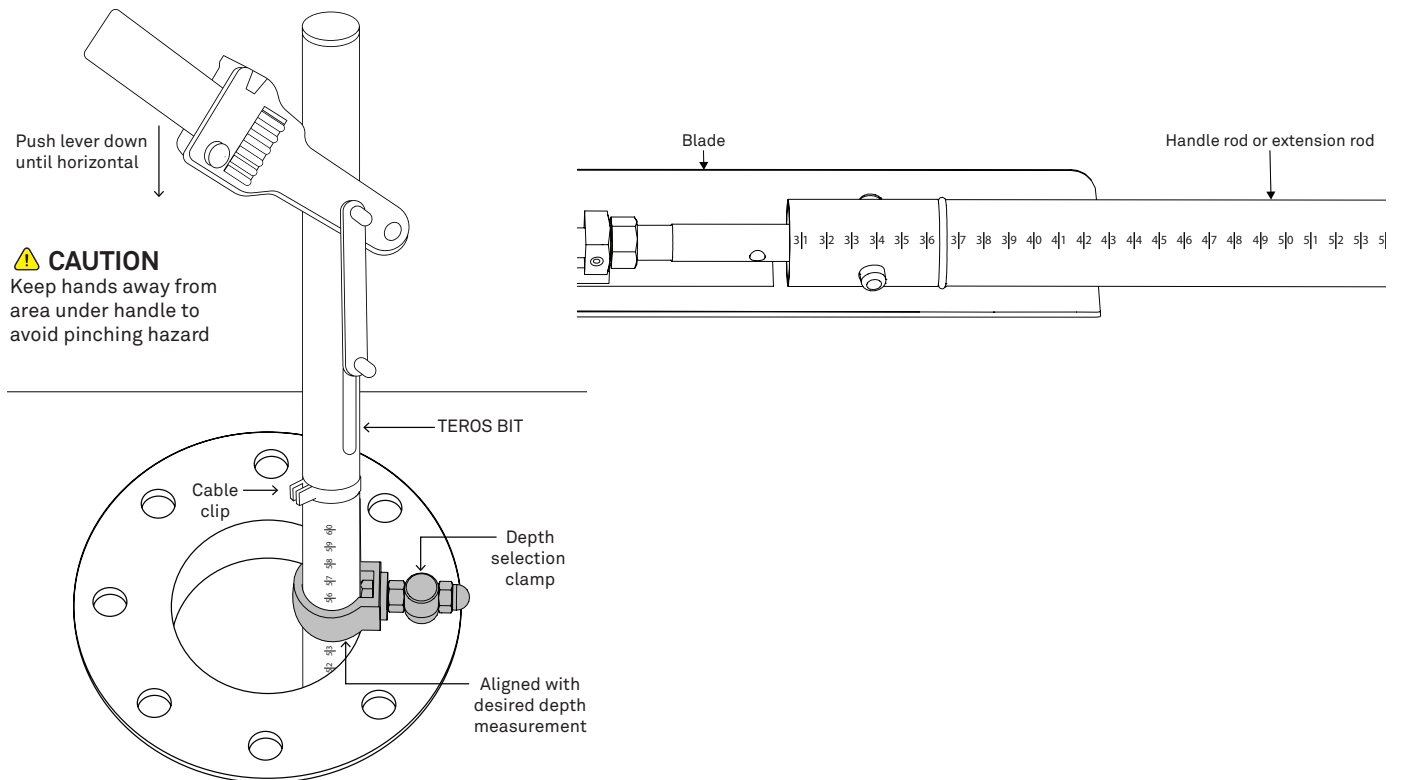

Figure 22 Insert TEROS BIT into flange borehole
10. Place the depth selection clamp into the marked flange hole (Figure 22).